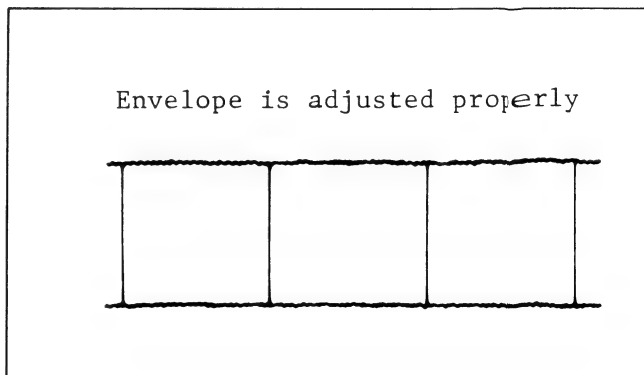

Fig. M50 Envelope Figure - (4)
3. When the scope display is as follows, adjust the height of P2 so that the waveform looks like Fig. M50.
4. When the scope display is as follows, adjust the height of P3 so that the waveform looks like Fig. M50.